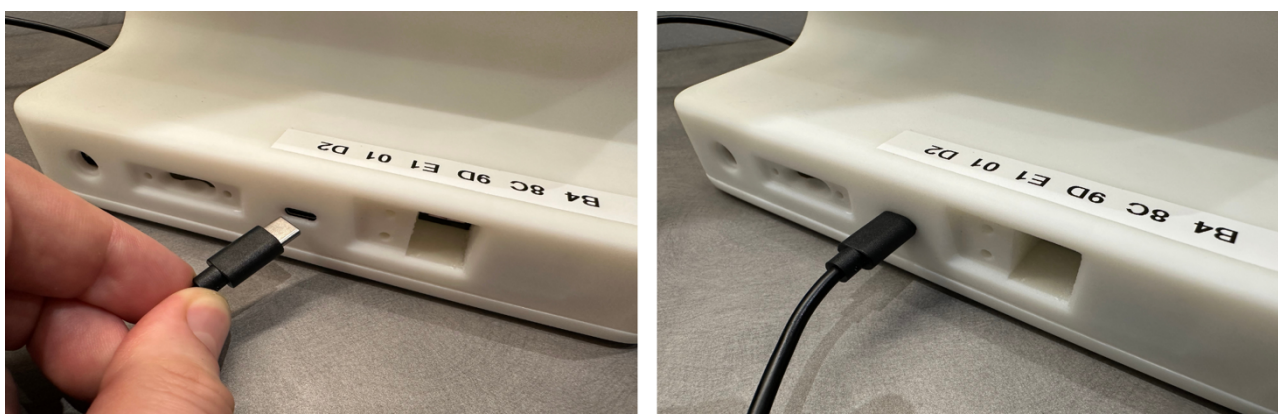

Fig.11. Proper connection of the wireless charger to the base station.
1. Connect the wireless charger to the base station (Fig. 11). Plug the USB-C connector of the charger into the USB-C port on the bottom rear panel of the Base Station.